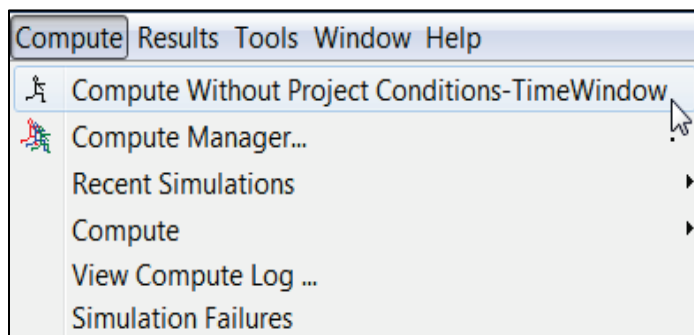

Figure 21.5 HEC-WAT Main Window – Compute Menu
From the HEC-WAT main window (Figure 21.1) from the **Compute** menu (Figure 21.5), the user can compute an FRA simulation from different commands. If an FRA simulation is active (displayed in a **Simulation Map Window** in the **Desktop Pane**), then the first item in the **Compute** menu will be that FRA simulation's name (e.g., *Without Project Conditions-TimeWindow*), hold down the **CTRL** key, click the FRA simulation, the **Compute Progress** dialog box will open (Figure 21.4) and the compute will start.
From the **Compute** menu (Figure 21.5), point to **Recent Simulations**, a list of recently computed simulations will display, hold down the **CTRL** key, click on an FRA simulation that is to be computed. The **Compute Progress** dialog box will open (Figure 21.4) and the compute will start.
From the **Compute** menu (Figure 21.5), point to **Compute**, hold down the **CTRL** key, click **Simulation**, the **Compute Progress** dialog box will open (Figure 21.4) and the compute will start. This will compute the active simulation (displayed in a **Simulation Map Window** in the **Desktop Pane**).
1. From the HEC-WAT main window (Figure 21.1), from the **Compute Menu** (Figure 21.5), click **View Compute Log** – this command is only available when there is an active simulation (displayed in a **Simulation Map Window** in the **Desktop Pane**), the **View Compute Log Editor** (Figure 21.7).